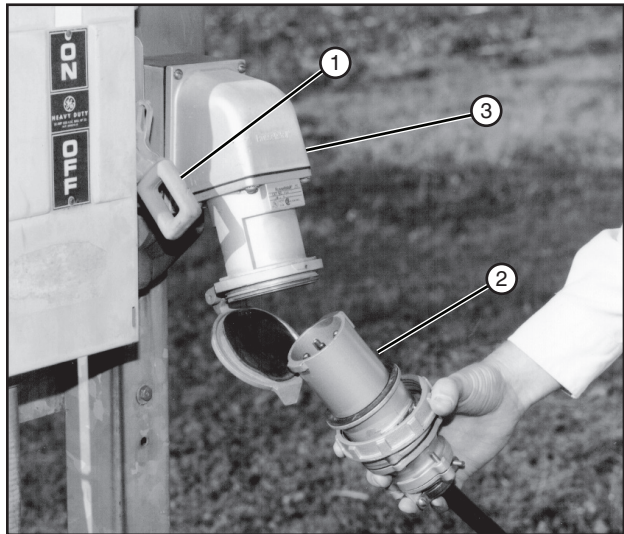

Figure 44-1 1. Service Disconnect-OFF 3. Receptical
5. With the service disconnect in the OFF position, unplug the power plug from the receptacle. See Figure 44-1.